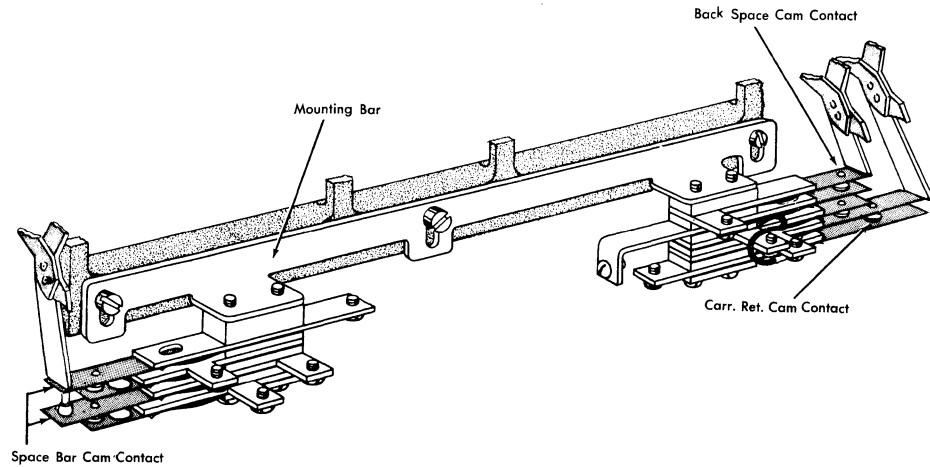

Figure 64. Functional Cam Contacts—Single Mounting Bar
1. If the functional cam contacts are mounted to a single mounting bar (Figure 64), loosen the three screws and position the bracket so that the operating straps of the backspace and spacebar cam contacts just touch the